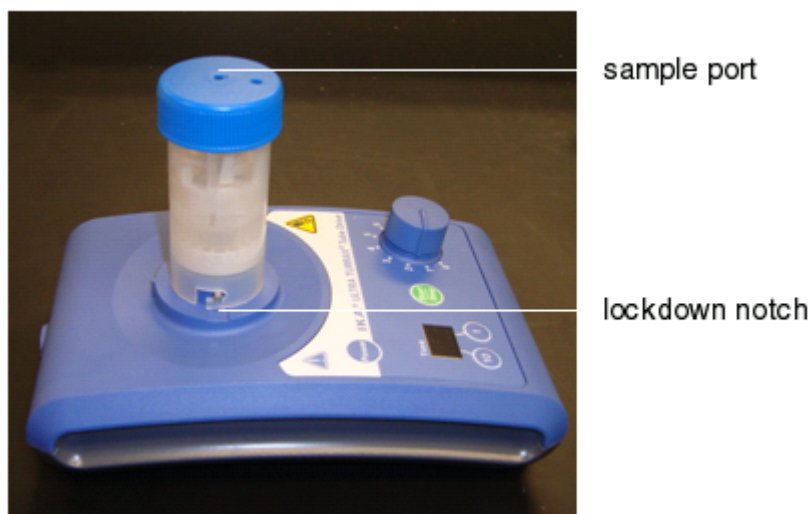

Figure 23 SOLiD™ ePCR Tube on the ULTRA-TURRAX® Tube Drive from IKA®.
1. Place the SOLiD™ ePCR Tube containing 9 mL of oil phase onto the ULTRA-TURRAX® device, then twist the tube to lock it into position (see Figure 23).